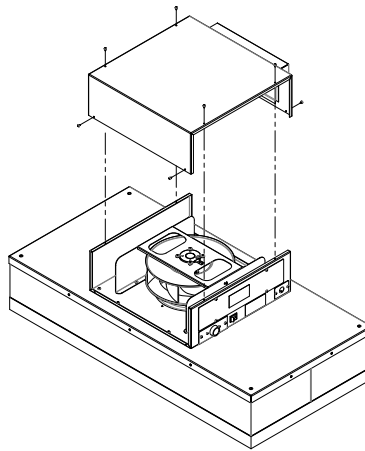

FIGURE 7: REINSTALLING THE BLOWER COVER
Step 3. Re-install the cover using the eight screws to secure the cover. (See Figure 7.)
Step 5. Re-install the cover using the eight screws to secure the cover, in the desired exhaust direction. (See Figure 7.)